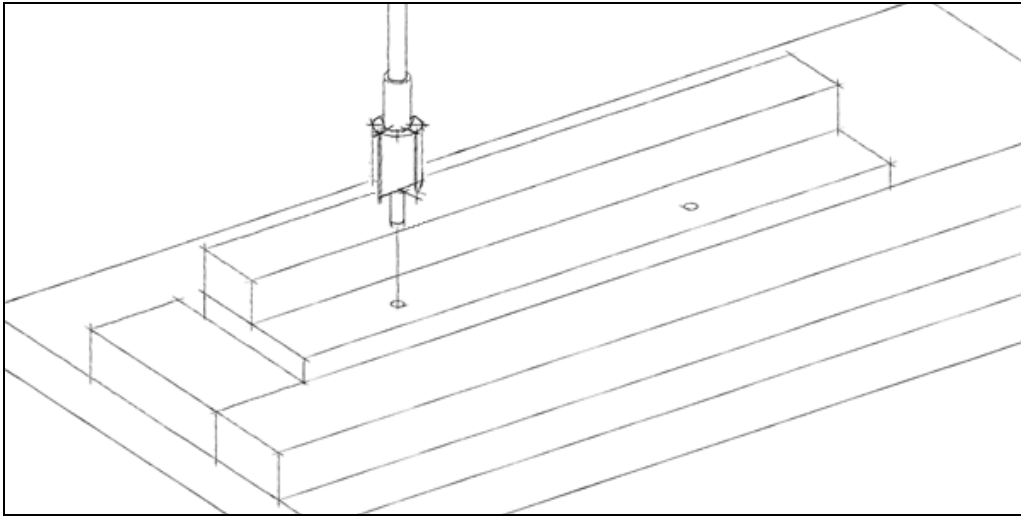

Figure 2. Drill the fence sleeve with a piloted counterbore.
6. Drill for the fence sleeve (with counterbore): Place the fence on the drill press fixture, with the front and top edges against the fixture fences. With the 3/4" piloted counterbore in the chuck, align one of the 3/16" holes with the counterbore pilot. Clamp the drill press fixture to the table, making sure that the edges of the plane fences are seated firmly against the fixture fences. There should be no need to clamp the work to the fixture, but do so if that makes you more comfortable. Bore entirely through the fence. **Do not remove the fixture yet.** See Figure 2 on the next page.